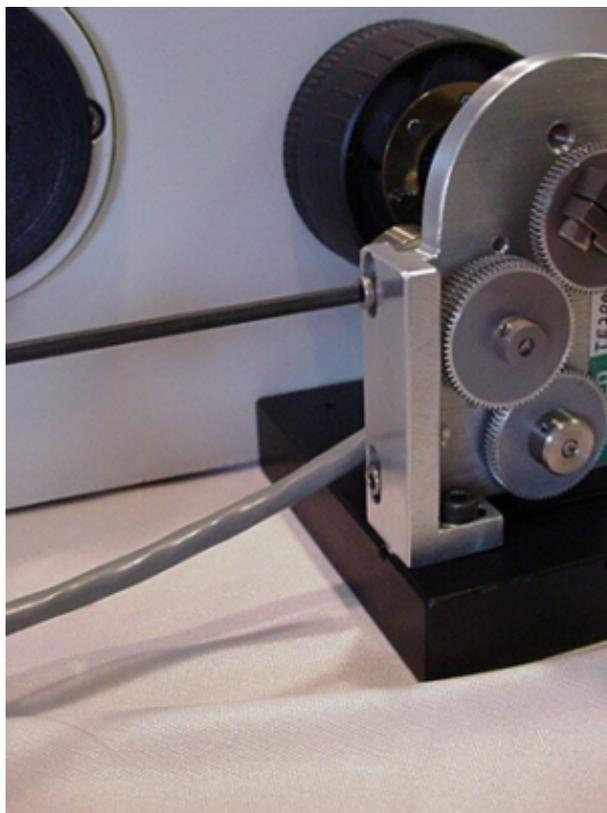

Figure 6 Loosen Vertical adjustment
a) Loosen the two Vertical screws that secure the drive to the adjustment bar as shown in figure 6. Use the 7/64" hex wrench. Loosen the screws just enough so that the drive can slide easily in the groove in the adjustment bar.